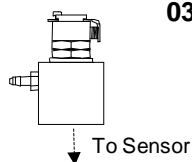

Figure 6: Identification of Calibration Adapters & Sample Draw System
(1) Require use of Sample Draw System. See Figure 6.
(2) Recommended use of Sample Draw System, for enhanced sensitivity and speed of response. See Figure 6.